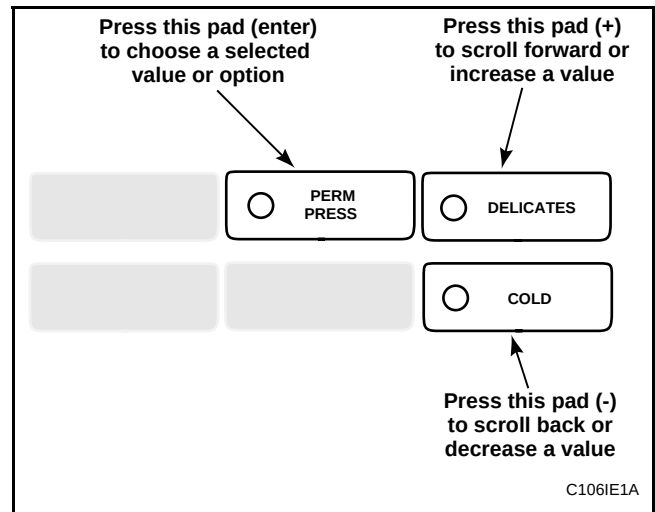

Figure 39
5. Press the DELICATES (+) or the COLD (-) keypad to increase or decrease the current number of minutes displayed in the VFD to the desired number of minutes. See **Figure 39**.